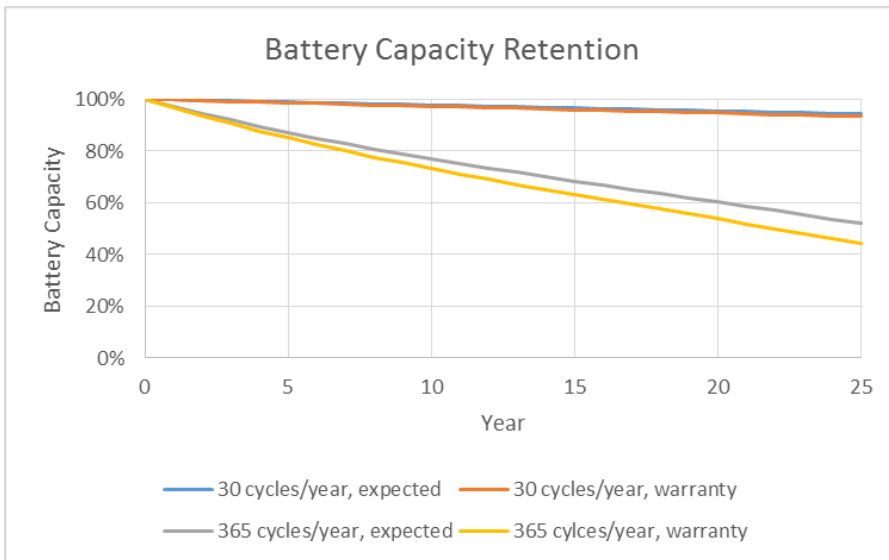

Figure 12: Battery Capacity Retention
- Alarm Screen** – Provides a detailed summary view of all alarms, faults, and warnings collected from connected devices, applications, and communication busses. Aggregate views show state of alarms for each site, site views show alarm description, timestamp of alarm event and clear event, as well as alarm priority. Figure 12 displays the Alarm screen.